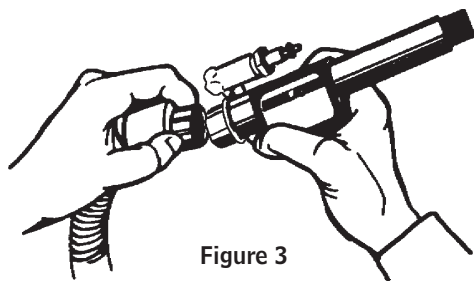

Figure 3
3. Firmly tighten hose connector by hand (see Figure 3).